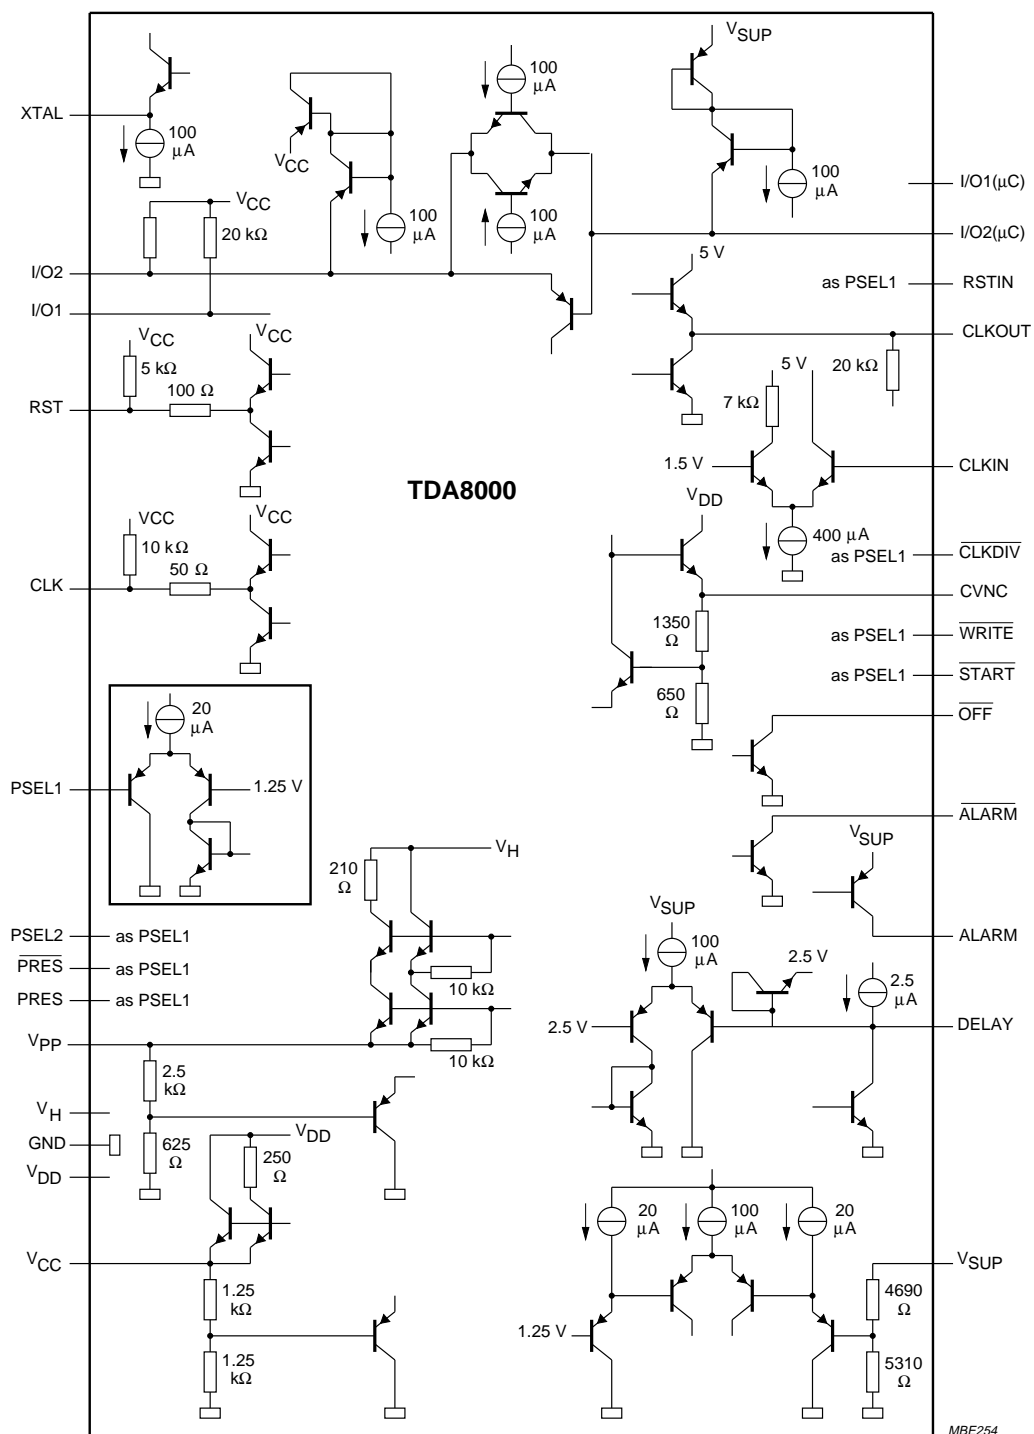

Fig.13 Internal pin configuration.
5. The path between I/O and I/O(μC) is as follows (see Fig.13):